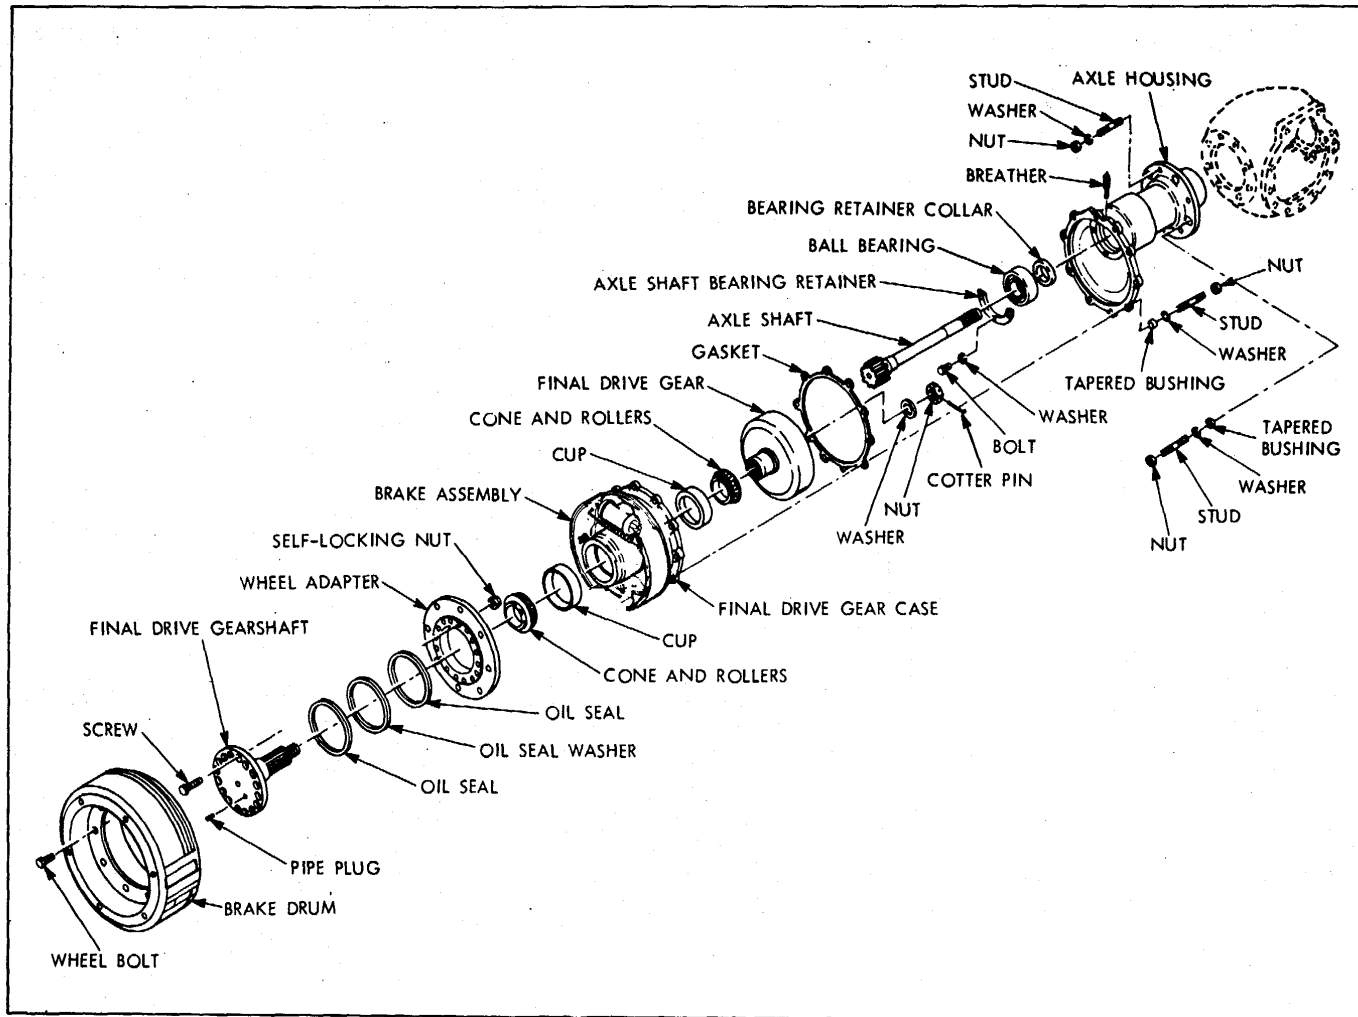

Figure 6-1. Front Axle, Exploded View
(5). Remove nuts, washers and tapered bushings, holding final drive gear case (Figure 6-1) to axle housing. Tap studs as necessary to separate, and remove gear case with attached parts. Axle will stay in housing.
(1) Remove nuts, washers, and tapered bushings from studs (Figure 6-1) attaching axle and differential housings. Tap parts with a soft mallet, if necessary, to free bushings from grip on studs, for disassembly. Studs may be left in place, if not to be serviced.
(2) Remove gaskets from studs and measure the thickness removed from each side. If no new parts are needed in the differential, the same thickness of new gaskets can be installed at assembly. This will eliminate the
(a) With bearing cones in place, install both axle housing (Figure 6-1) to differential housing, with differential assembly installed. Use about 0.030 inch total gaskets at each side initially.
(1) Raise front of truck so drive wheels clear floor.
(2) Remove wheel bolts (Figure 6-1) and draw dual wheel, tires and drum from drive axle.